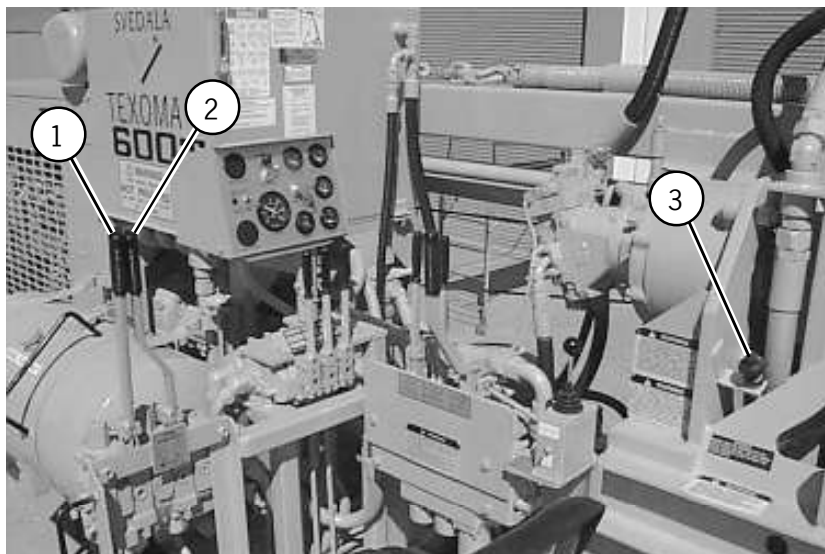

Fig. 4-3 Model 600T shown
2. Always tram machine with engine at full RPM. Pull the Hand Throttle out and lock at full RPM (see fig. 4-3).